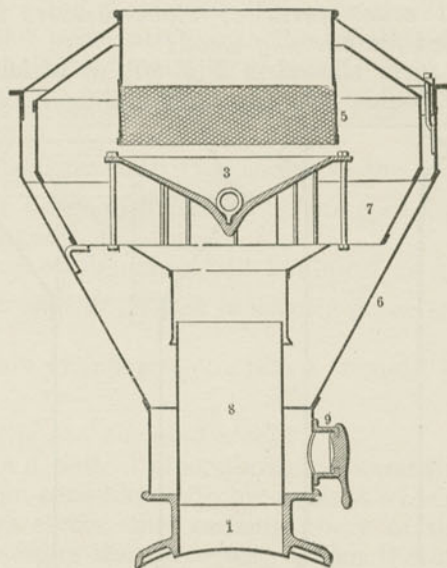

Fig. 97. Stack for Wood.
A. The form shown in Fig. 97, in which there is a very wide double cone-top surrounding a central cylin-